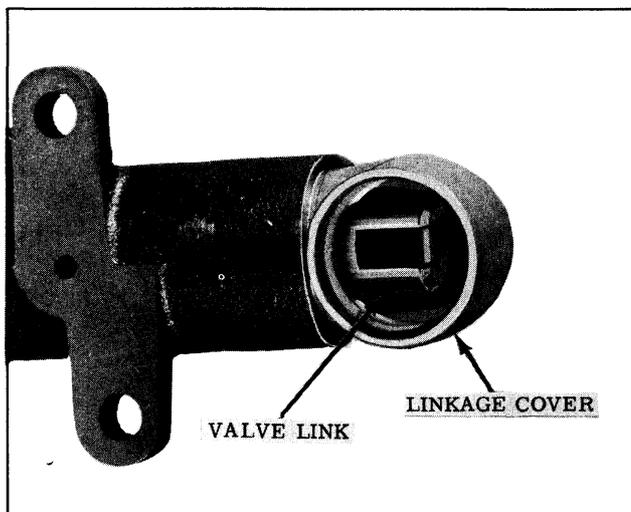

Fig. 5-39 Valve Cover and Link Alignment
7. Install the linkage cover and align valve link and linkage cover as shown in Fig. 5-39.